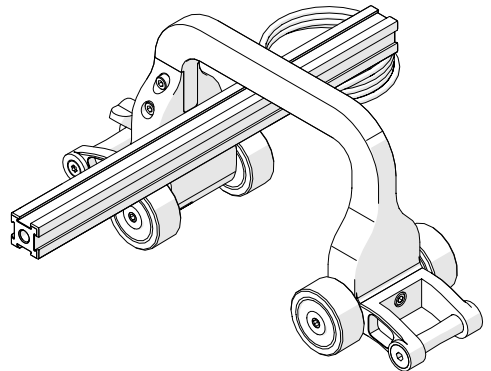

Fig. 75 - Attach frame bar
2. Attach the appropriately sized frame bar (Fig. 75) to the reduced width link (see Attach a Frame Bar on page 12).